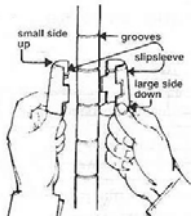

Figure 1
1. Select the desired height for the shelf. Shelves can be placed at any of the 1" circular grooves along the tube. Now take a pair of plastic clips into the groove you have selected, small side up (as in **Figure 1**).